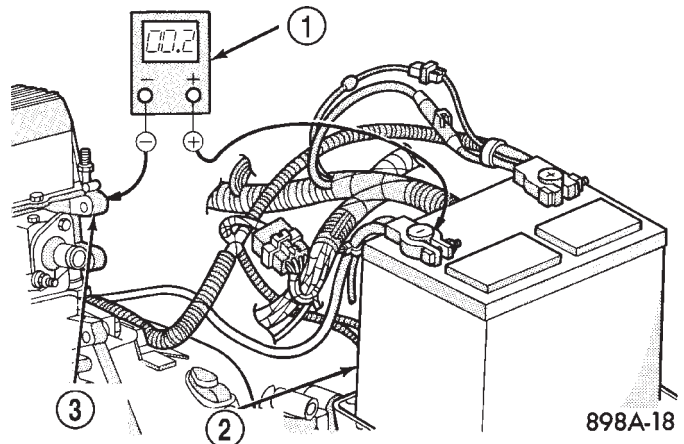

Fig. 5 Test Ground Circuit Resistance - Typical
(4) Connect voltmeter to measure between negative battery terminal post and a good clean ground on engine block (Fig. 5). Rotate and hold ignition switch in Start position. Observe voltmeter. If read-